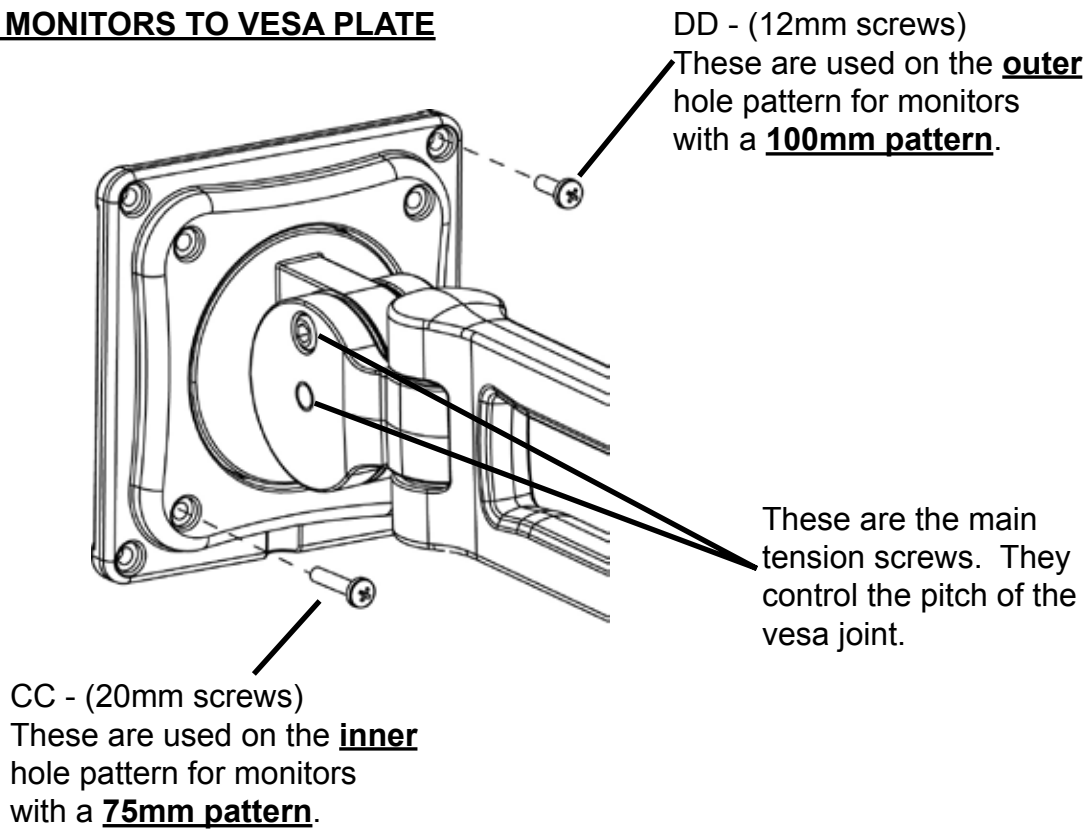

**FIGURE 2**
Slide beam onto hanging bracket as shown in **FIGURE 1**. Then center beam on bracket and secure in place with screws (BB) as shown in **FIGURE 2**.